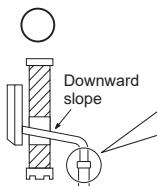

Fig. 2
- 5) Attach conduit pipe (for rear piping) / elbow joint (for right, left, or downward piping) to conduit plate with lock nut. The thread of the installed conduit pipe / elbow joint appearing inside should be less than 3/8 in. (10 mm). (Fig. 1) Elbow joint should appear less than 1-3/16 in. (30 mm) outside. (Fig. 2)
- 3) Pull out the drain hose at the back left of the indoor unit. (Fig. 2)
- The drain hose should point downward for easy drain. (Fig. 2)